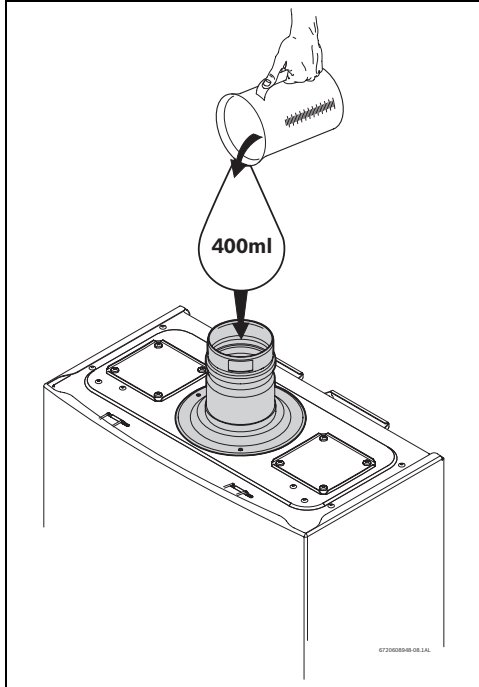

Fig. 32 Filling the condensate trap at start up
- Fill the condensate trap by pouring approx. 14 oz. (400ml) of water into the exhaust accessory on the top of the appliance, see Fig. 32 .